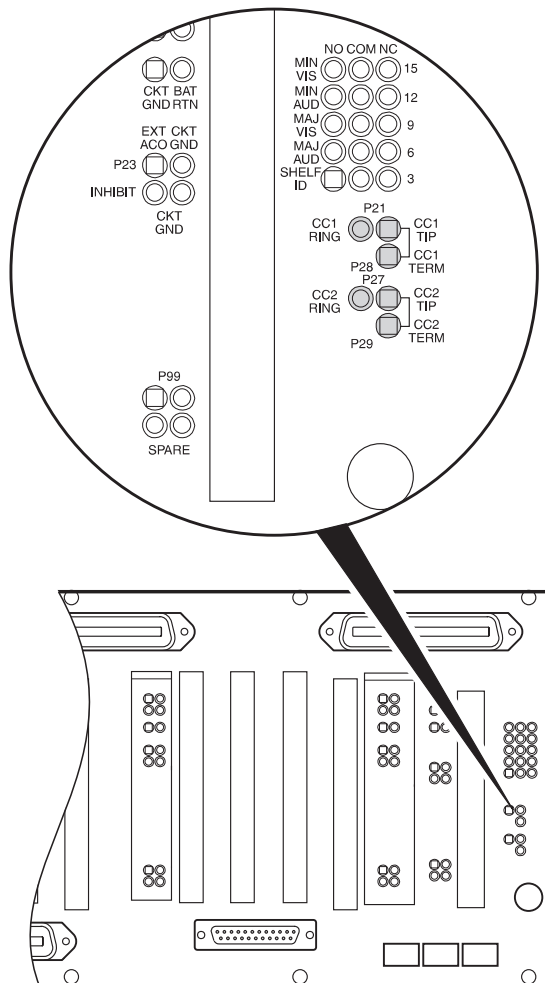

Figure 8. Connecting the Composite Clock and Alarms
8.6 Composite Clock. When required for digital services, connect the composite clock (Figure 8).
8.7 Alarms. If external audible and visual alarm indications are required, connect the audible and visual alarm leads from the CO alarm panel to the COT alarm contacts on PG-Flex according to local practice, Figure 8, and Table 12.
8.8 External Alarm Cutoff (EXT_ACO, CKT_GND). A momentary connection between EXT_ACO (P23, pin 1) and CKT_GND (P23, pin 2) will silence the PG-Flex audible alarms (Figure 8, and Table 11).